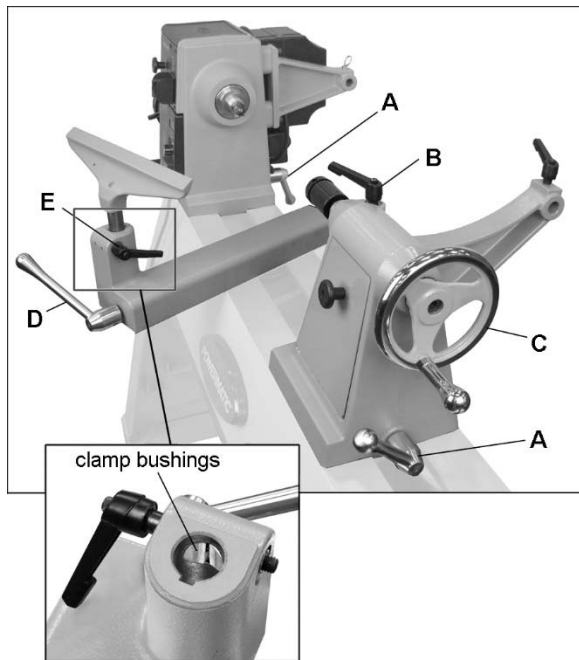

Figure 8-1: headstock, tailstock, tool support
To slide headstock or tailstock, swing locking handle (A, Figure 8-1) backward or forward until head/tailstock can slide freely. When head/tailstock is positioned, swing locking handle until it tightens securely.
Loosen locking handle (B, Figure 8-1) to advance or retract tailstock quill by rotating handwheel (C). Retighten handle (B).
Loosen locking handle (D, Figure 8-1) to slide support base forward or back, and angle it to the bed. Tighten locking handle securely before operating Lathe.
Loosen small handle (E, Figure 8-1). Make sure clamp bushings (inset, Figure 8-1) are properly positioned to accept tool support post.
Locking handles, such as B, Figure 8-1, can be rotated to more convenient position. Lift up on handle, rotate it on pin, then release it, making sure it seats on pin.
- To remove a center, loosen locking handle (B, Figure 8-1) and retract quill by rotating handwheel counterclockwise until center dislodges on its own. Do not allow center to fall out of spindle, as it may get damaged.